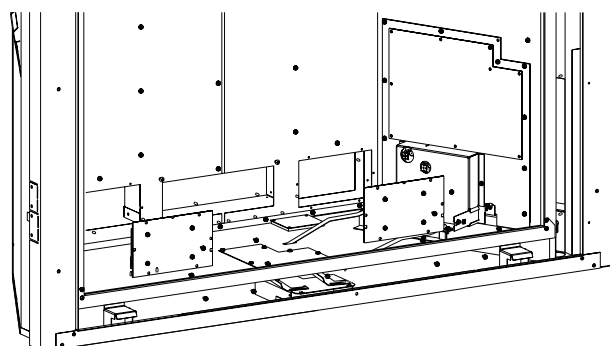

Figure 13
8. Replace Blower Bracket (w/ blowers attached) with (6) screws each. See Figure 13.